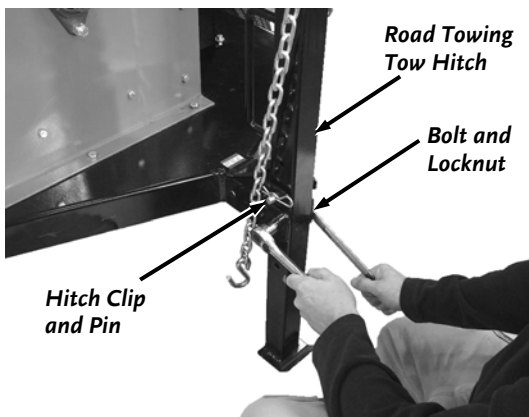

Figure 55
4. Position the Road-Towing Tow Hitch and secure with the Pin and Hitch Clip (**Figure 55**).